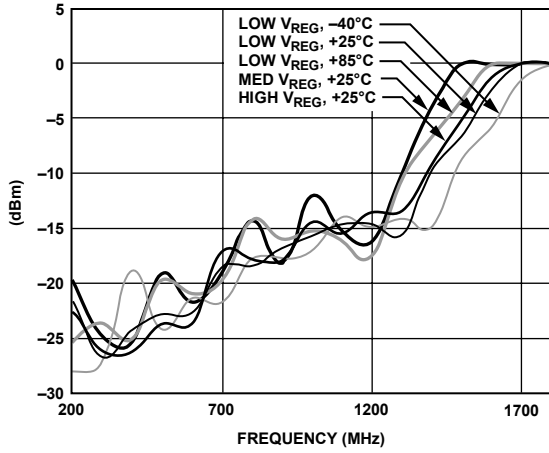

Figure 2. N-Divider (Input Sensitivity)
- Examine the sensitivity plot in Figure 2. The minimum input power as per the plot should have at least 3 dB of margin, to ensure reliable N-divider performance over all supplies and temperatures.